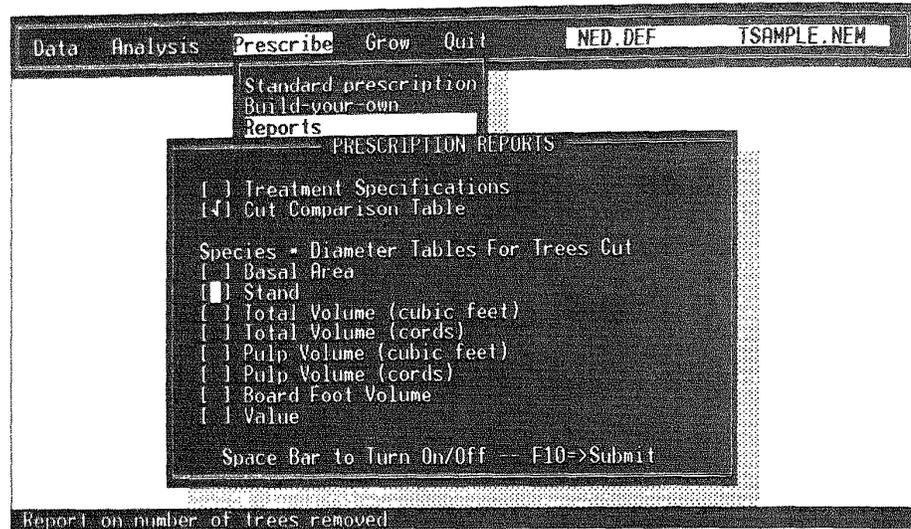

Figure 23. -- Prescription Reports selection window.
**Operation:** The reports available to the user through the Reports option under Prescribe are shown in Figure 23. The treatment specifications report provides information about the board-foot and cord volume removed, instructions for timber marking, and cutting specifications. The cut comparison table shows initial, cut, and residual stand parameters including volumes, basal area, and number of trees. Species by diameter tables are also available showing values for trees that were removed.